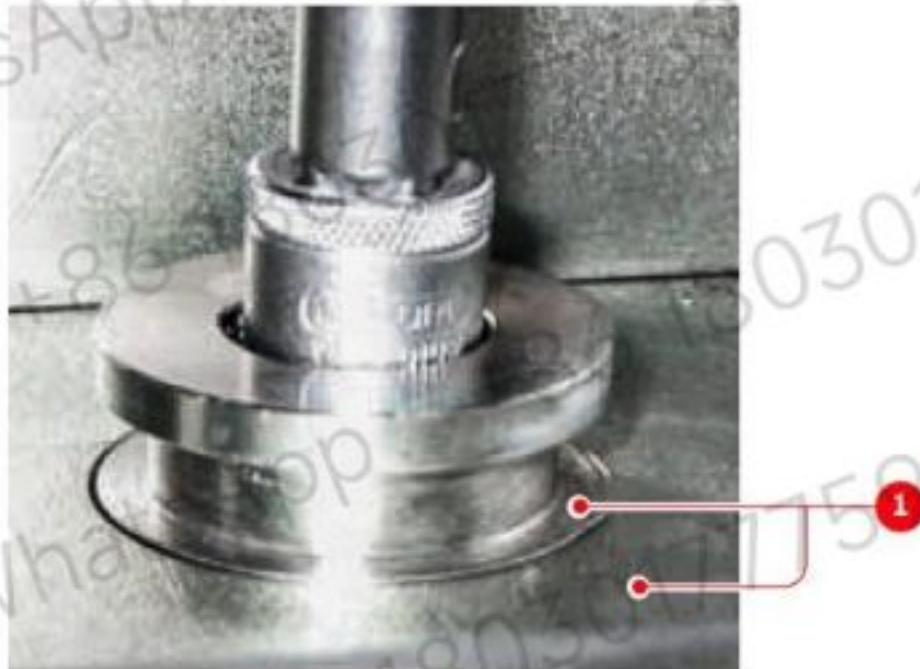

Figure 10–32 Adjusting clamp pressure of stack
2. Tighten the clamping screw until the pressure loading gauge is just released and the surfaces are even, then remove the pressure loading gauge (see Fig. 10–32).